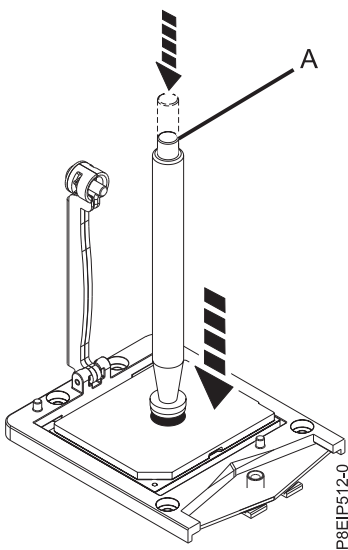

Figure 66. Locking the vacuum pen to the system processor module
8. Lower the vacuum pen tool onto the system processor module. Fully press the top of the pen (**A**) and hold the pen in the center of the processor module as shown in Figure 66. Release the top of the pen to fasten the pen onto the processor module.